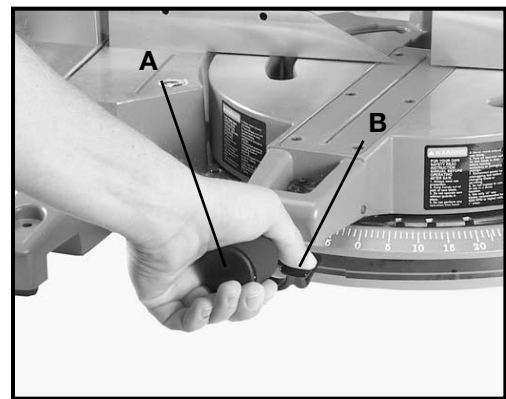

Fig. 12
**DANGER: A TURNING SAW BLADE CAN BE DANGEROUS. AFTER COMPLETING CUT, RELEASE SWITCH TRIGGER (A) FIG. 12, TO ACTIVATE BLADE BRAKE. KEEP CUTTINGHEAD DOWN UNTIL BLADE HAS COME TO A COMPLETE STOP.**
1. Your compound miter saw will cut any angle from a straight 0 degree cut to 47 degrees right and left. Rotate locking knob (A) Fig. 12, depress lock lever (B), and rotate table to desired position.